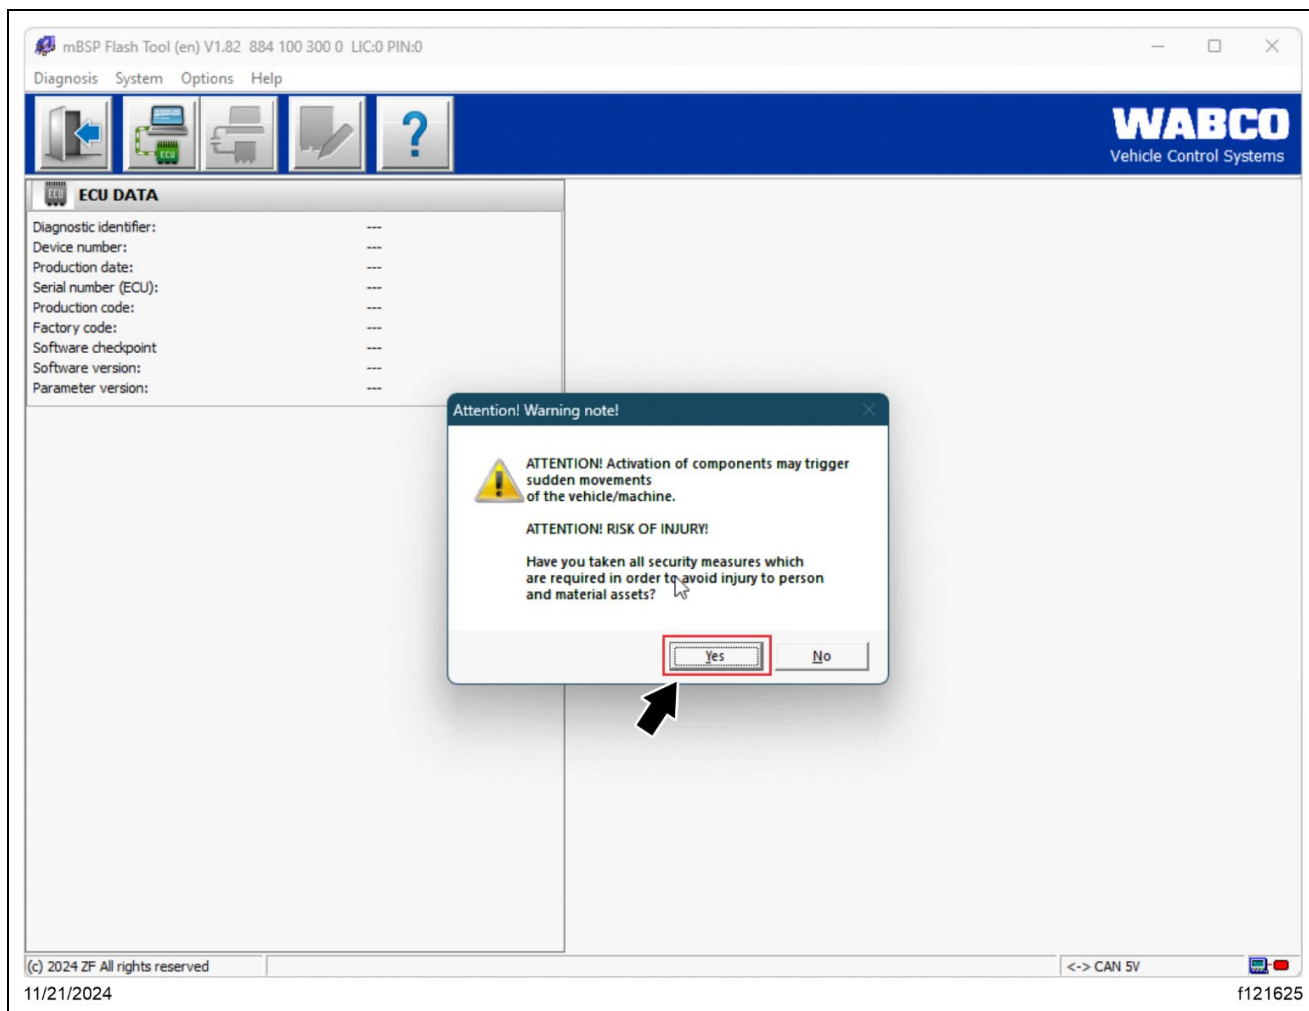

Fig. 47, Accepting the Warning
11. Select 'Yes' to accept the warning reminding of any preconditions that must be adhered to. See Fig. 47.